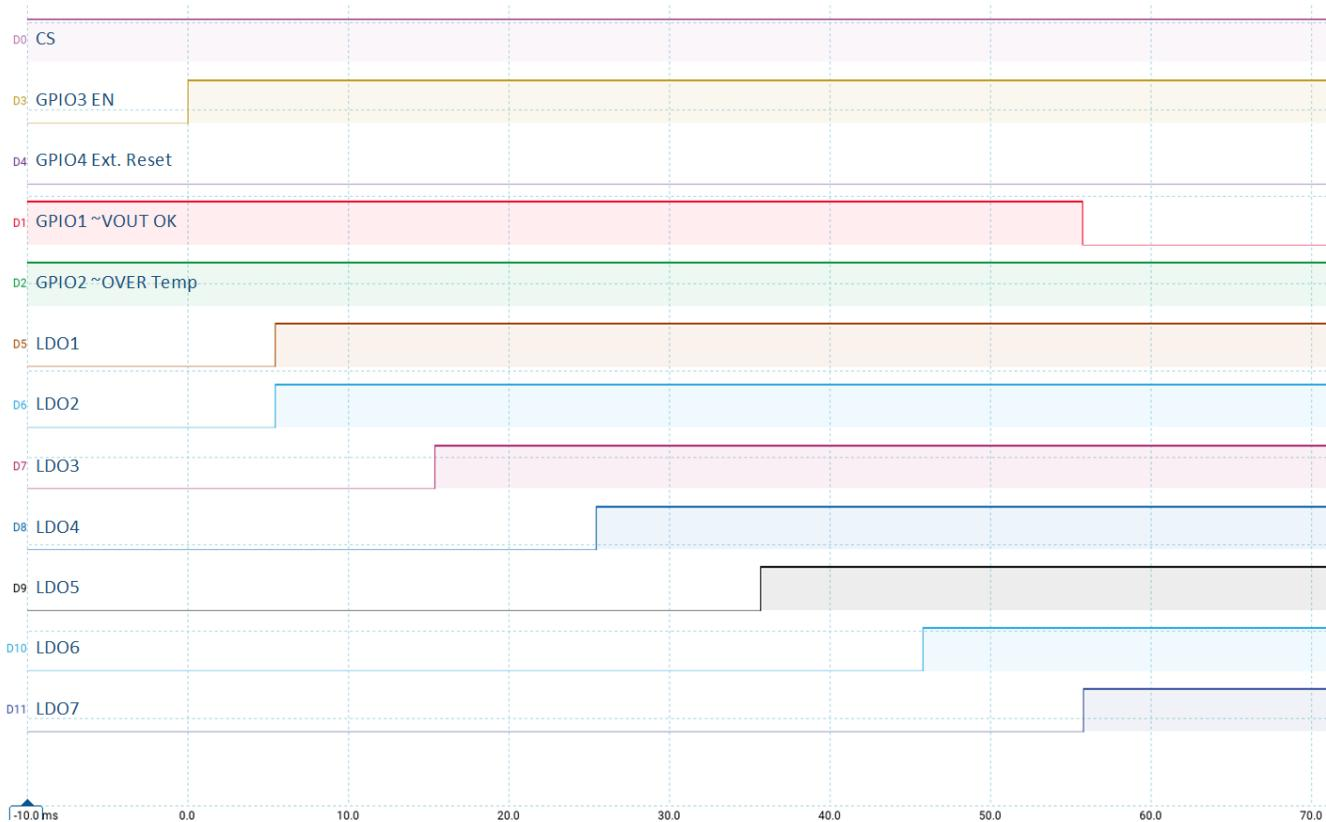

Figure 7: Power-up sequence via GPIO3 (EN)
Figure 7 shows the operation of the Power Sequencer block as a part of the SLG51000 chip. After raising GPIO3 (EN), which has a 5 ms debounce, the LDOs start turning ON one by one. Once all LDOs are turned ON, and a current limit event has not been detected, GPIO1 (VOUT OK) goes to a low level. In other words, this means that all LDOs have a voltage at the output, and the current limit protection has not been triggered.